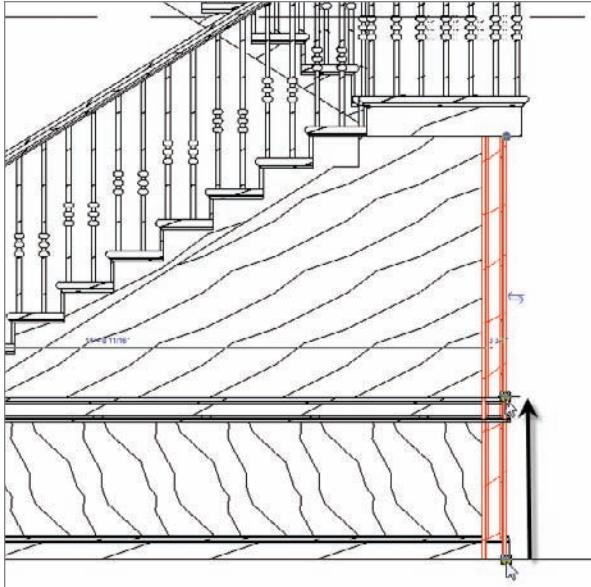

FIGURE 16.19 Dragging the sweep up to the chair rail
13. Select the vertical trim. Notice there are grips on the top and the bottom. Pick the bottom grip and drag it up to meet the top chair rail, as shown in Figure 16.19.